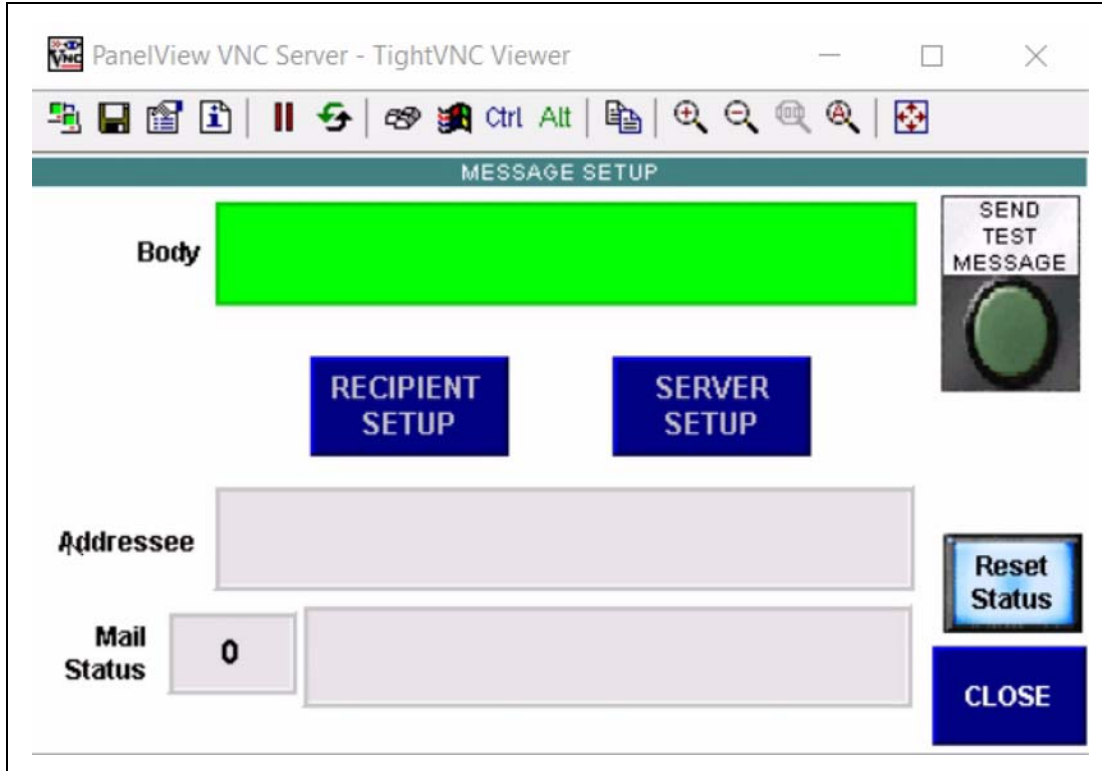

Figure 5C
3. Sending a test message. (See Figure 5C.)